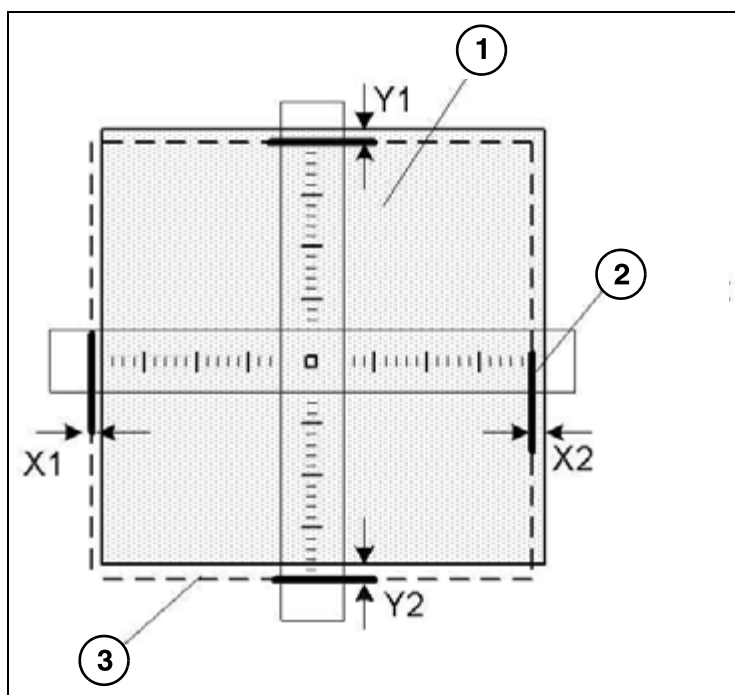

Fig. 9: Light / radiation field 1
- Mark the light field with soldering wire on the centering cross (Fig. 9 / p. 20).